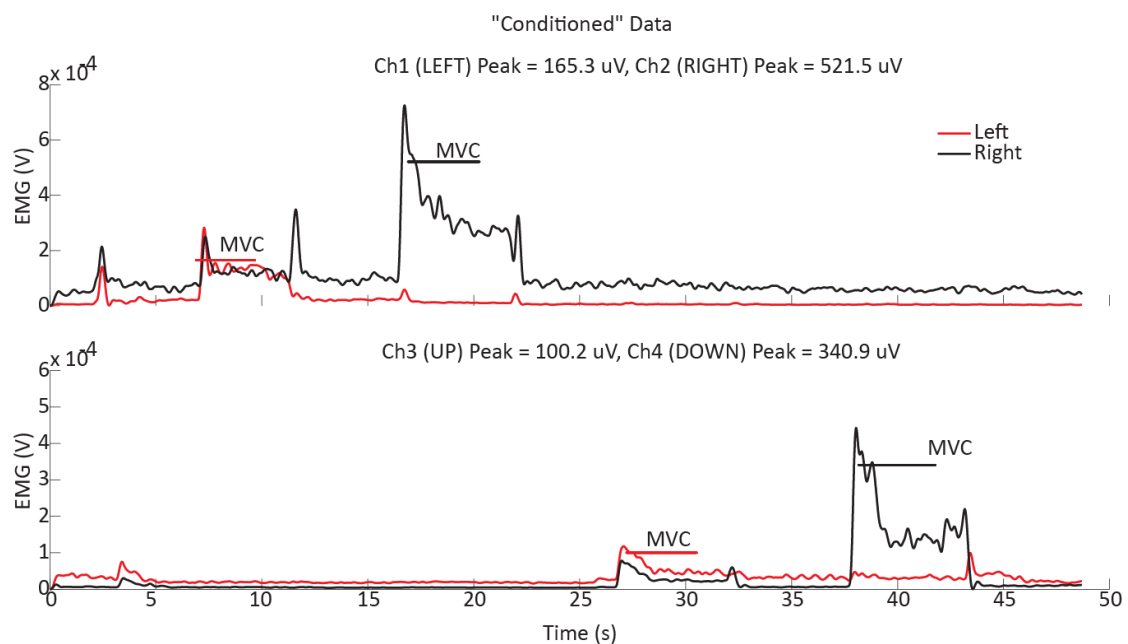
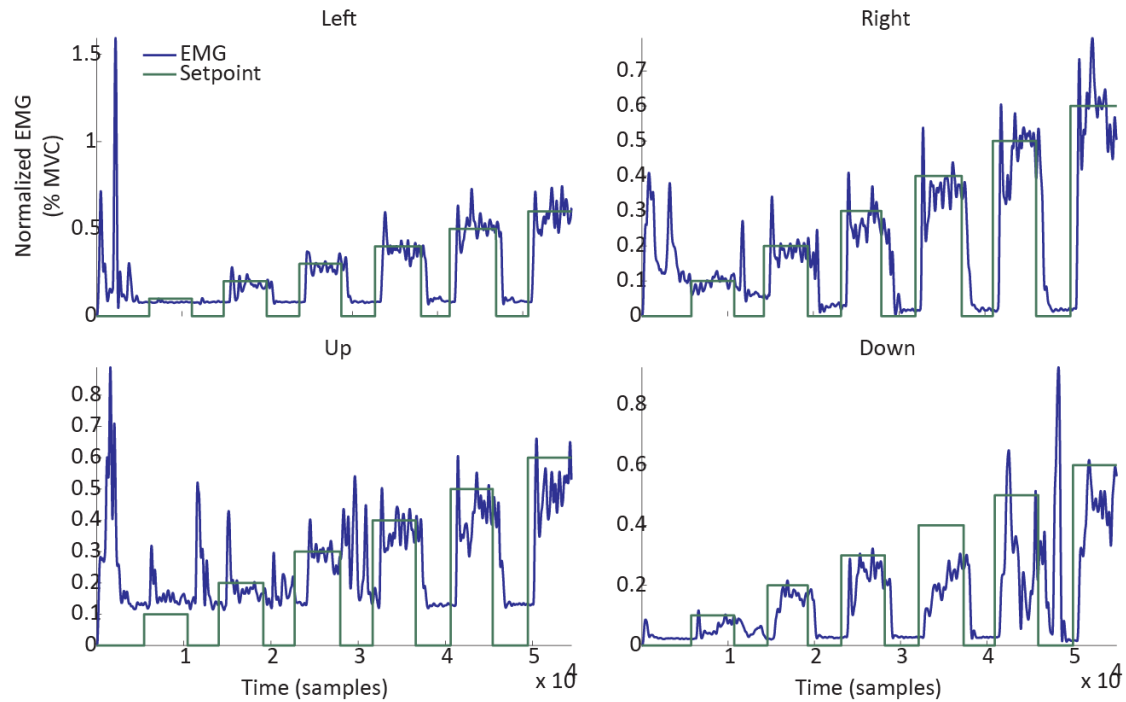
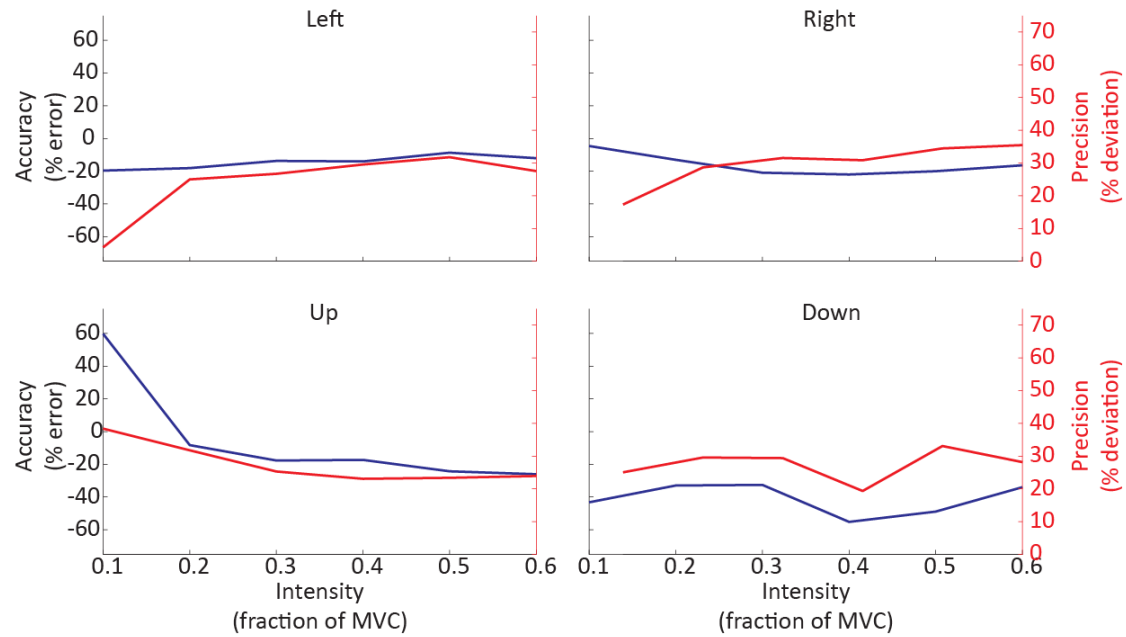

Figure 2: Rectified EMG with MVC indicated for each pair set.
Figure 3: Modulating control via Step-tracking of EMG output
Figure 4: Example of accuracy and precision characteristics
- Once the MVC values for each muscle are determined, we can normalize the subsequent recordings by the MVC. We are now ready to test the myoelectric control performance for each muscle. In the first experiment, we will test the “Accuracy” and “Precision” of control over a range of contraction levels: 10, 20, 30, 40, 50, and 60% of MVC. Run **StepTrace.m** and follow the traces, controlling your EMG output accordingly. Track your signal output using **SpikeRecorder** and record each set. Figure 3 shows an example of the myoelectric control signals for 4 muscles during step-tracking of these 6 intensity levels or “setpoints”. The green traces indicate the setpoint levels and the blue traces indicate the normalized (and conditioned) EMG signals. Use **MuscleStep.m** for a quick and dirty plot of this process. Note that some muscles are able to track the setpoint very closely, while
*In your write-up, discuss the trends that you observe in the accuracy and precision of the myoelectric control signal across the range of intensity levels that were tested. Figure 4 shows an example of the Accuracy and Precision characteristics for the myoelectric control signals shown in Figure 3. As you may have also noted in Figure 2, on most channels, the error and deviation tend to change with the setpoint level. Also note the polarity of the error—is it positive or negative? What does the polarity indicate? What does the deviation indicate? Think about the effects that the error and deviation may have on control performance. Are the trends important? In other words, does it matter that the accuracy and precision change with myoelectric signal intensity? Finally, discuss how this information could be used to tune the performance of your myoelectric controller.*